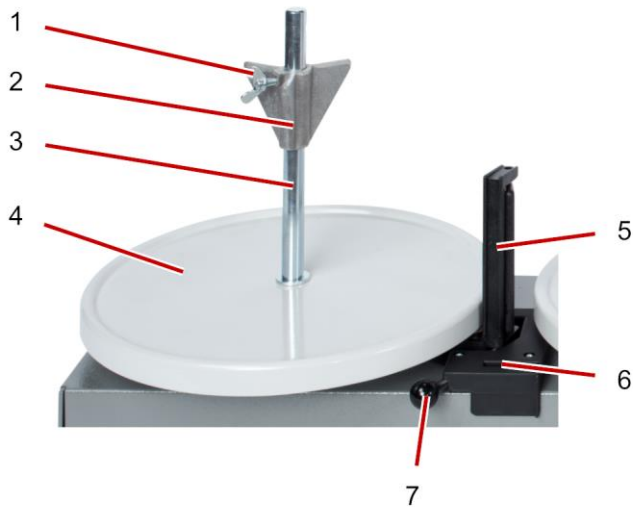

Fig. 18 Adjusting SPULBOI 200-4-S / SPULBOI 300-3-S and SPULBOI 450-2-S
- ▶ If necessary, insert a ring collar. See Fig. 18.